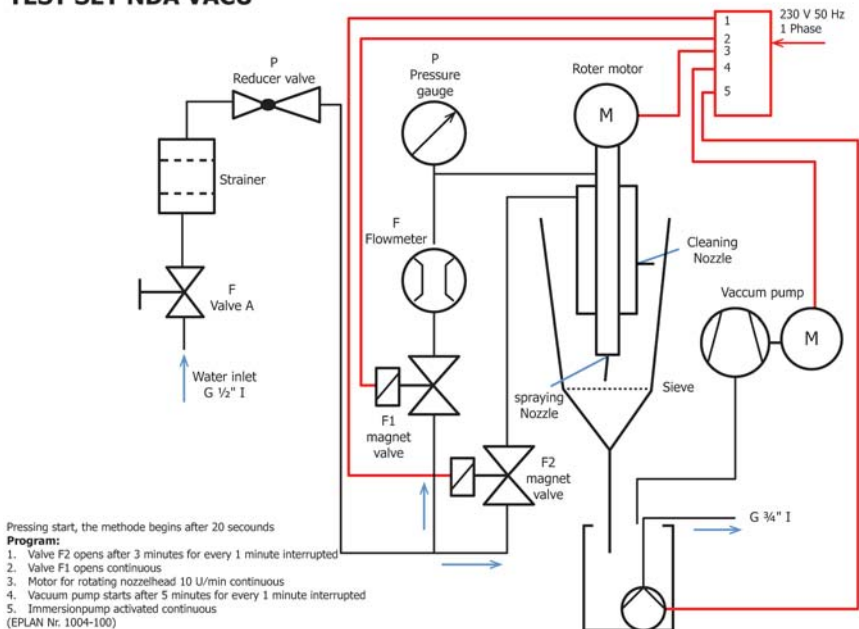

FIG. 1 Schematic Diagram of NDA Test Equipment
5.1 *Sieve Apparatus*, as shown in Fig. 1.3
8.6 Based on a predefined program the sample will be flushed through the sieve by the water spray nozzles. For details refer to Fig. 1.